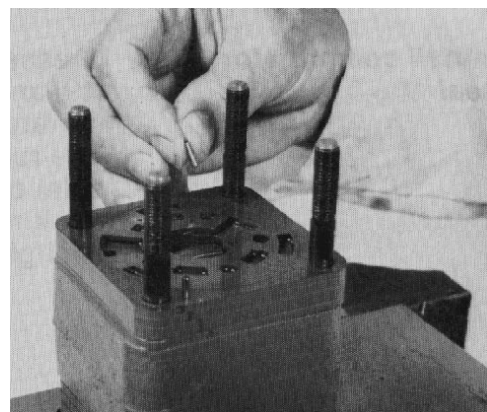

Figure 96
33. Install two alignment pins into the isolation manifold (Fig. 96).